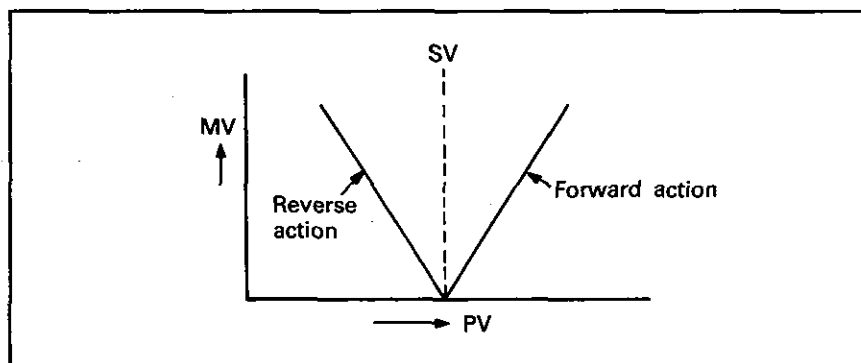

Fig. 1.3 Forward and Reverse Actions by MV, PV, SV
#### (2) Fig. 1.3 illustrates the forward and reverse acting processes by using the MV, PV and SV.